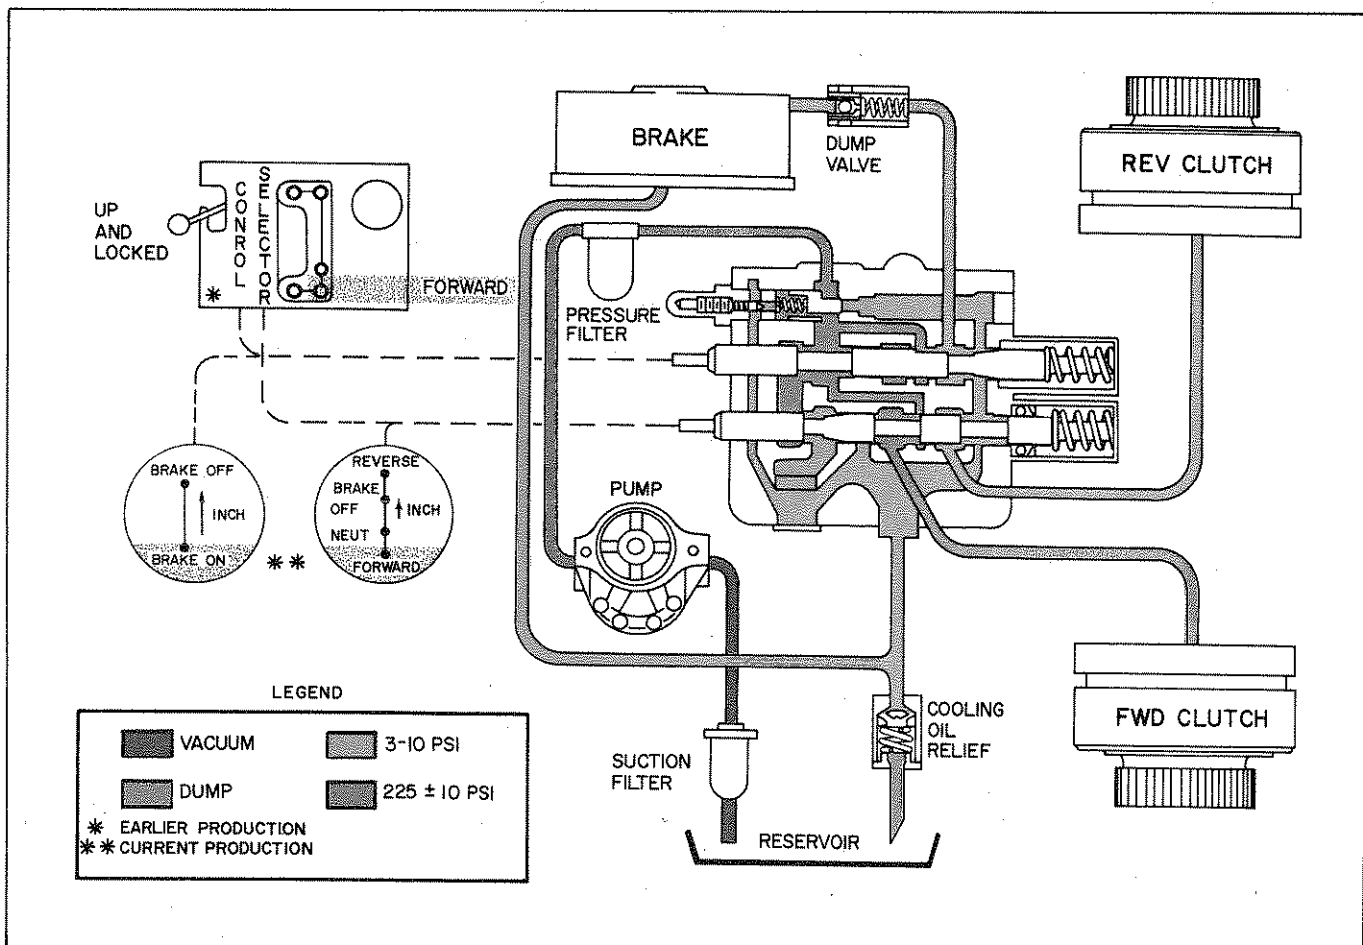

Figure 1-15. Hydraulic Flow Diagram, Forward Inching, Brake Applied
1-28. HYDRAULIC SYSTEM IN FORWARD INCHING, BRAKE APPLIED. (See Figure 1-15.) On Earlier Production Handling Gear, the system is placed in FORWARD INCHING OPERATION by: (1) Moving the Control Lever Up and locking it in place and (2) holding the Selector Lever in the FORWARD position. On the Current Production Handling Gear, this is accomplished by: (1) Lifting the Stop Latch away from the Inching Lever which will allow the Inching Lever to spring-return to the BRAKE ON position and (2) holding the Selector Lever in the FORWARD position. When the Control Lever is Up and locked in place or the Inching Lever is in the BRAKE ON position, the inching spool is spring-returned to its Neutral position. With the Selector Lever in the FORWARD position, the selector spool is pushed to its extreme In position. With the spools in these positions, the pump draws oil from the reservoir through the suction filter and delivers it through the pressure filter to the control valve inlet. Oil will then enter the
control valve inlet and flow past the inching spool to the selector spool. At this time, the oil is dead-headed since the selector spool has been pushed back into the valve, closing off the passage between the valve body and the spool. The oil will back up and fill the cavities leading to the forward clutch and the brake cylinder. As shown in figure 1-15, the entrance to the brake port is much smaller than the exit from the brake port. Therefore, the oil entering the brake port will not increase to a high pressure in that port. Pressure upstream of the brake port will continue to increase until it is relieved at the high-pressure relief valve. This pressure engages the forward clutch. Overflow from the pilot operated relief valve is regulated by the cooling oil relief valve. This low pressure oil circulates to the reverse clutch to cool the clutch discs. At this time, the forward clutch has been applied, but the brake has not been released. The torque converter on the tractor will therefore assume a stalled condition.